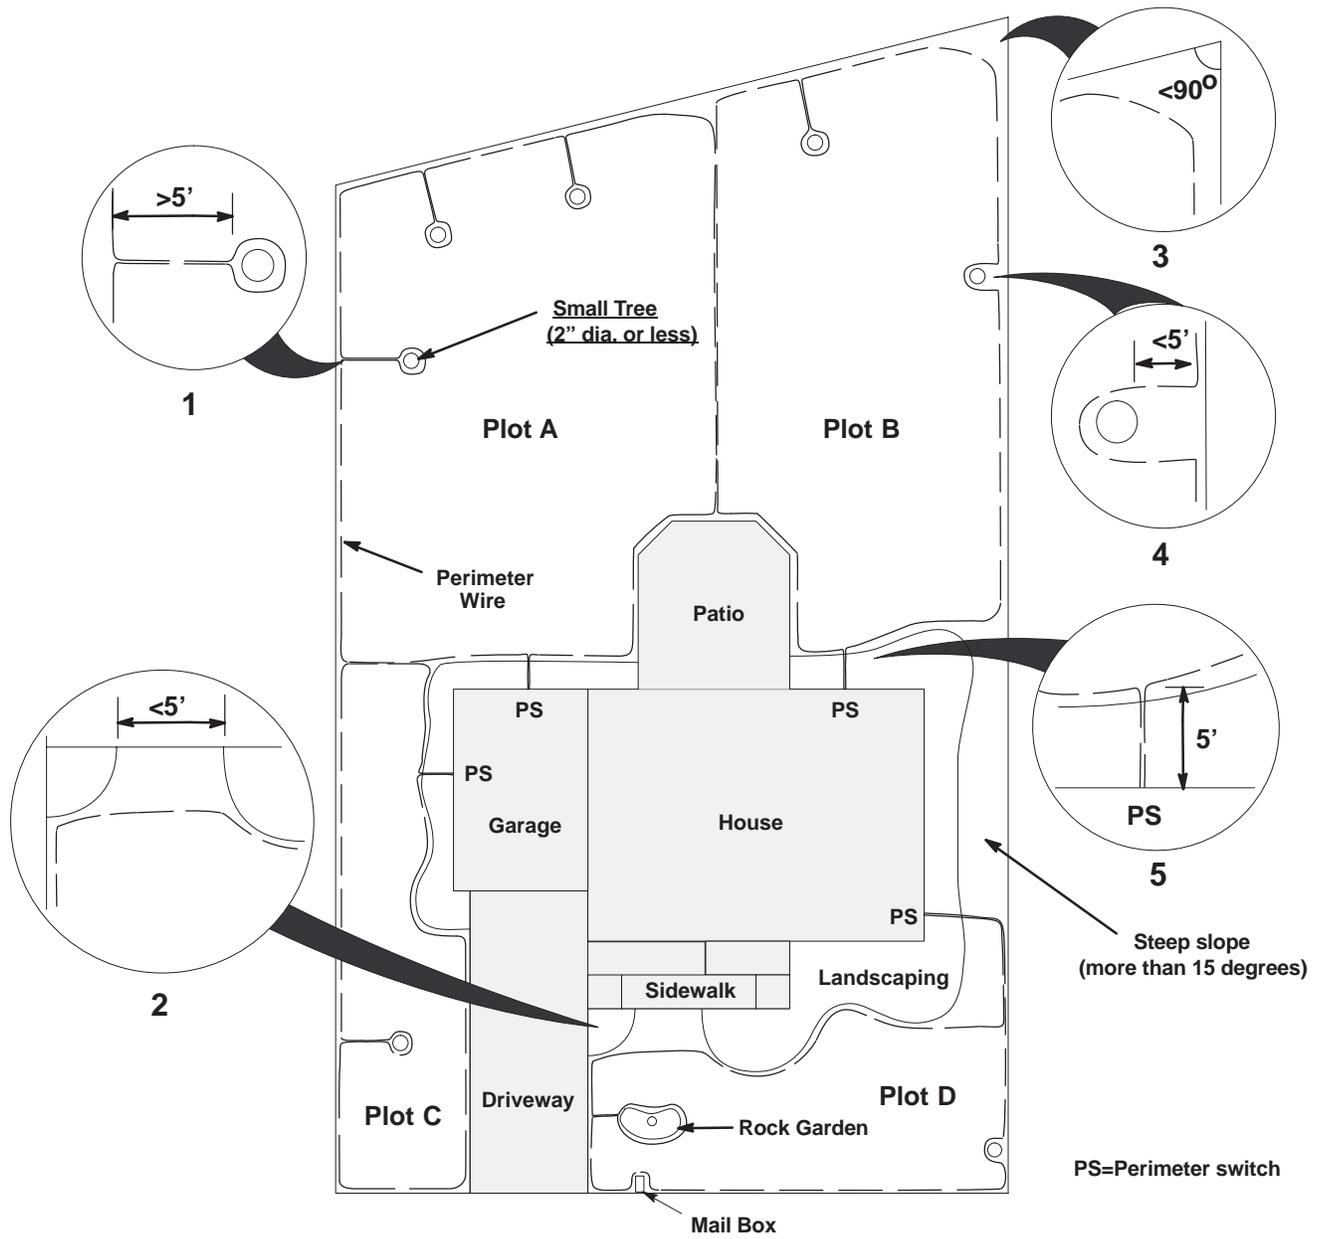

Figure 4
Before using the robotic lawn mower for the first time, plan out how you want the lawn mower to mow your lawn. Figure 4 shows the top view of a typical lawn.
The lawn mower can mow up to 2500 square feet (230 square meters) before the battery pack needs recharging. If your lawn is larger than 2500 square feet (230 square meters) or if you have an area to mow that is isolated from the rest of your lawn, you will need more than one mowing plot. For laying out multiple plots, refer to Laying out Multiple Mowing Plots on page 8 and to Plots A, B, C, and D in Figure 4.
If an obstacle is greater than five feet (1.5 m) from the lawn edge or wall, create a perimeter island by laying the perimeter wire around the obstacle (Inset 1 in Fig. 4). This creates a double wire, with one wire leading from the edge and the other wire going to the edge. The sides of the double wire should be parallel and touching so that there is no gap between them. Unlike a single wire, the lawn mower does not detect a double wire and will travel over it, effectively creating a separate perimeter around the obstacle.
Note: For the purpose of illustration, Inset 1 in Figure 4 shows the wires leading to and from the perimeter island having a space between them. These wires must be parallel and touch each other for the lawn mower to function properly. Secure both wires with the same pegs.
If an obstacle is less than five feet (1.5 m) from the lawn edge or wall, leave it outside the wired area (Inset 4 in Fig. 4).
When you lay out the perimeter wire, avoid creating corners less than 90 degrees (Inset 3 in Fig. 4). The lawn mower cannot enter small, confined areas and may lose track of the perimeter wire. You must manually mow the sharp corner areas.
Do not wire the indentations along the edge of the lawn that are less than five feet (1.5 m) wide. Instead, lay the perimeter wire straight across the opening of the indentation (Inset 2 in Fig. 4). You must manually mow the indentations along the edge.
- Multiple Perimeter Switch Locations—Install each mowing plot separately, with multiple perimeter switch locations (Fig. 4). Wire each mowing plot and move the perimeter switch from mowing plot to
Whichever mounting method you use, ensure that the perimeter switch is at least five feet (1.5 meters) from the perimeter wire so that the lawn mower cannot touch it (Inset 5 of Fig. 4).